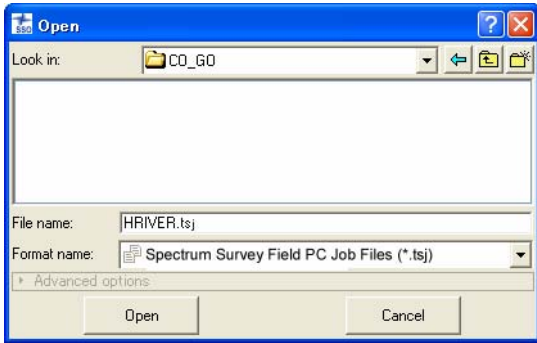

Figure 3-17. Import Spectrum Survey Field PC Job
1. To import a Spectrum Survey Field PC job on a computer into Spectrum Survey Office, with a job open, either click **Job ► Import**, press **F3**, or click the **Import** button on the Toolbar (Figure 3-17 on page 3-16).
4. Click **Open** to import the file (Figure 3-17 on page 3-16).